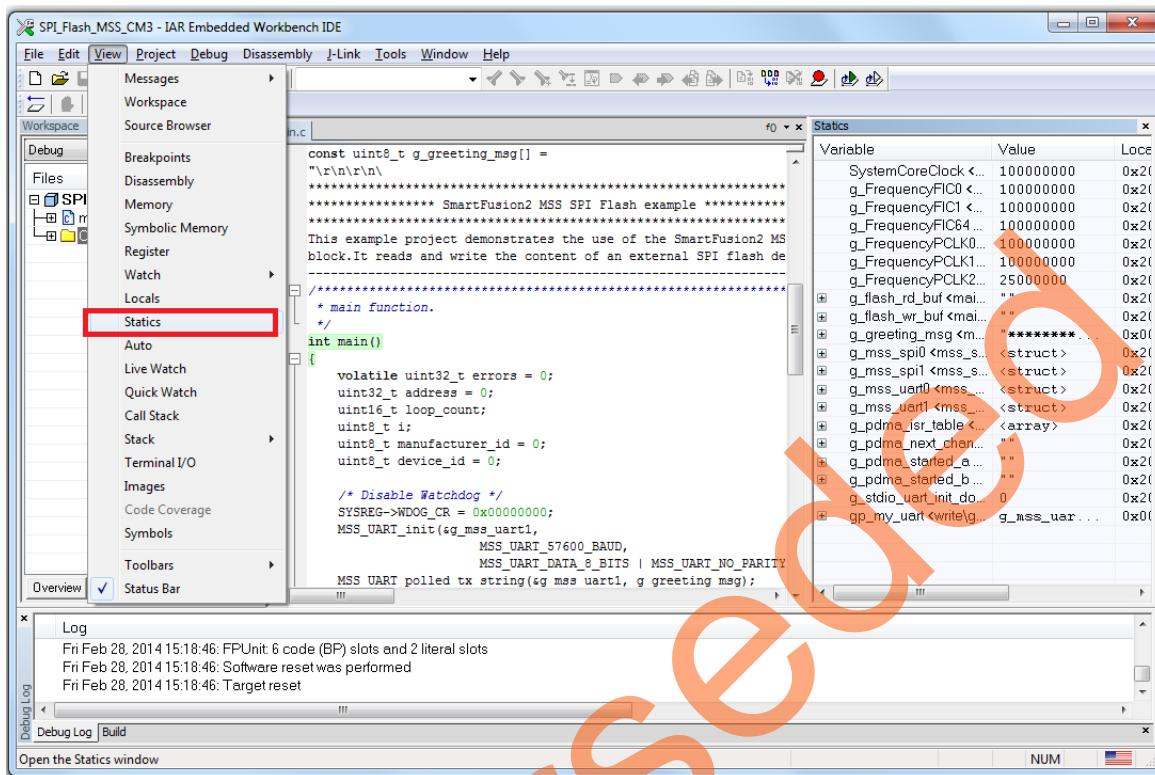

Figure 45 • Values of the Source Code Variables
6. Click **View > Statics** to view the values of variables in the source code as shown in Figure 45.